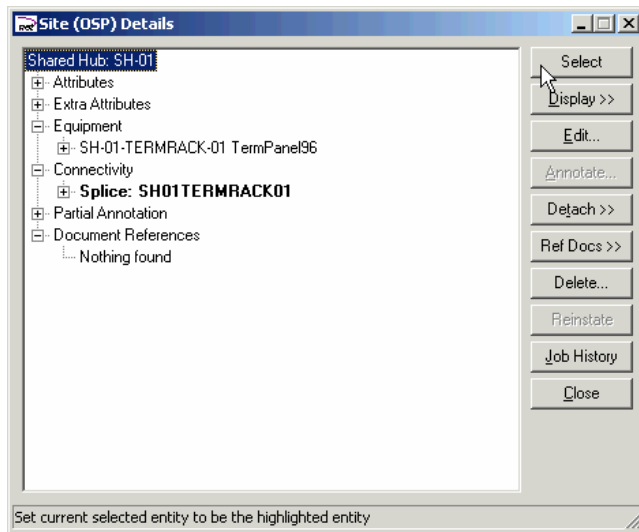

Figure 86 – Site (OSP) Details panel, with Shared Hub selected
1. Select the Splice location by highlighting it in the details panel and clicking the **Select** button, as shown below. (Compare panel below, with panel in Figure 86.)